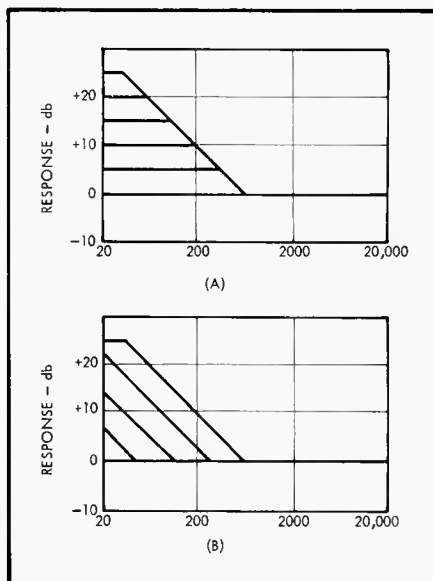

Fig. 1. Frequency response asymptotes for bass-boost characteristics illustrating (A) variable shelving, and (B) variable turnover frequency characteristics.
Two basic types of response characteristics are possible in a simple dual-tone-control circuit. The first type, termed *variable shelving* is illustrated at (A) in Fig. 1 for a series of asymptotic bass-boost curves. This type of response is characterized by a turnover frequency which is fixed for any position of the control. The response flat-
tens off at a value determined by the control setting. The second, or *variable turnover* type of response is illustrated at (B) in Fig. 1, and is characterized, as the name indicates, by a turnover frequency which varies in accordance with the control setting. The two types of curves may have the same maximum boost or cut characteristics, but the operation for intermediate positions of the controls is markedly different. With a small amount of boost, the variable-turnover characteristic emphasizes the extreme frequencies while the variable shelving characteristic, at the same control setting, emphasizes the middle high or low frequencies.